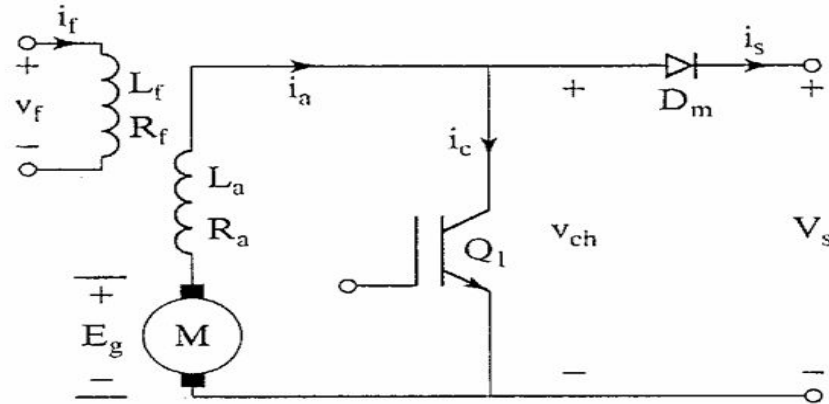

Figure 5 – Regenerative brake control circuit of a DC series motor
5. (a) A DC-DC converter is used in regenerative braking of a DC series motor as shown in Figure 5. The DC supply voltage is 600 V. The armature resistance is  $R_a = 0.02 \Omega$ . The field resistance is  $R_f = 0.03 \Omega$ . The back emf constant is  $K_v = 15.27 \text{ mV/A rad/s}$ . The average armature current is maintained constant at  $I_a = 250 \text{ A}$ . The armature current is continuous and has negligible ripple. If the duty cycle of the DC-DC converter is 60 %, determine: